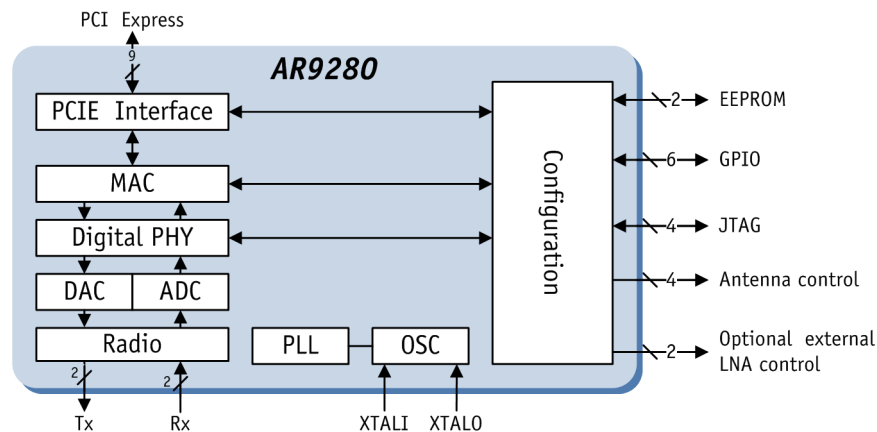

Figure 2-1. Functional Block Diagram of the AR9280
The baseband digital processing functions are implemented by the digital PHY of the AR9280. The radio frequency (RF) and baseband analog processing are provided by the integrated radio. The physical layer (PHY) is partitioned between the baseband processor and the radio. The configuration block, PLL, ADC, DAC, EEPROM interface, JTAG, antenna control, LED controls and GPIO complete the AR9280 functionality. See Figure 2-1.